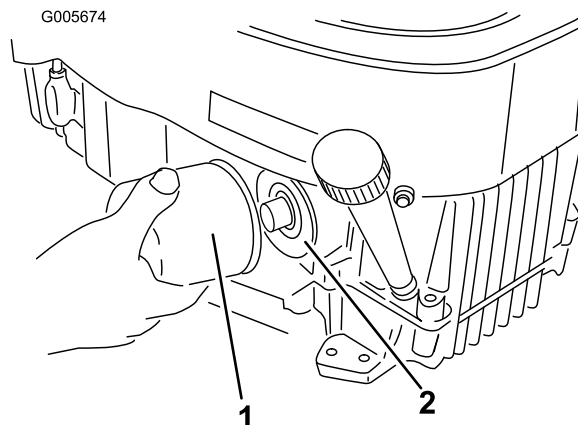

Figure 38
- Remove the old filter (Figure 38).
- Install the replacement oil filter to the adapter. Turn the oil filter clockwise until the rubber gasket contacts the filter adapter, then tighten the filter an additional 3/4 turn (Figure 38).